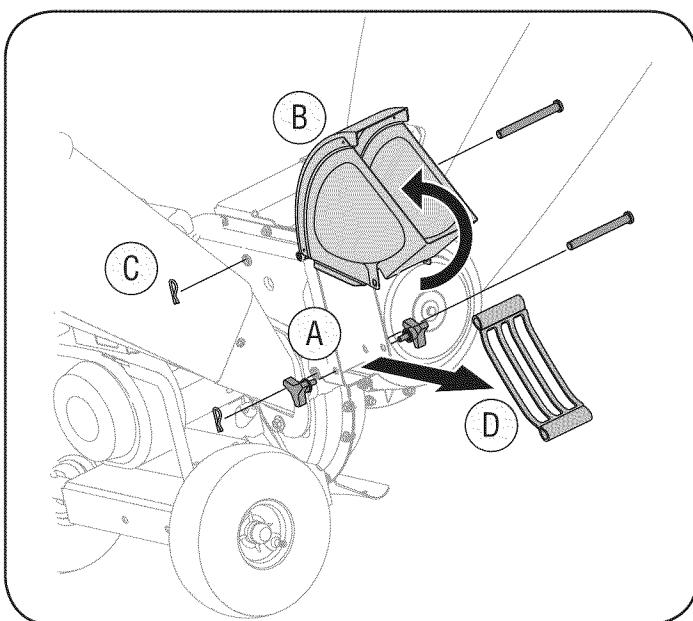

Figure 14
- A. Remove the bag and two wing knobs on each side of the chute deflector. See Figure 14.
D. Remove the flail screen from inside the housing and clean the screen by scraping or washing with water. See Figure 14.